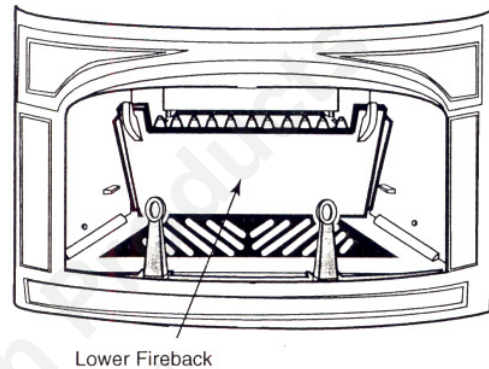

Fig.2 Remove Lower Fireback
2. Remove the left and right wedges that hold the lower fireback and bricks in place, and remove the lower fireback brick retainer and bricks (**Fig. 2**)